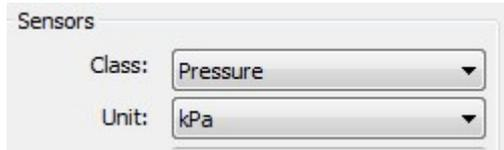

Figure 5.57 Unit selection
1. select "Detailed Design"->"Sensor"-> drop-down box corresponding to"Unit", as shown in Figure 5.57